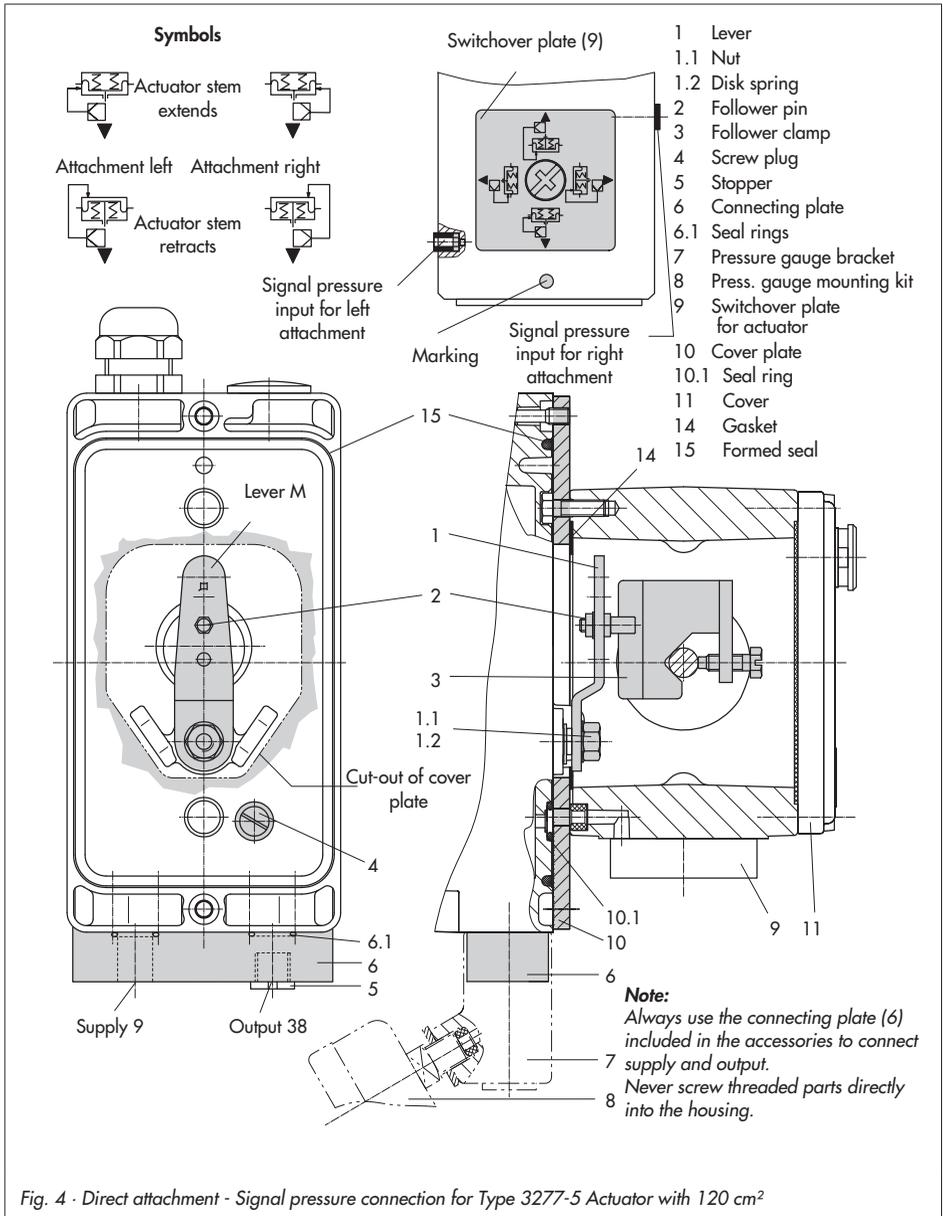

Fig. 4 - Direct attachment - Signal pressure connection for Type 3277-5 Actuator with 120 cm²
1. Mount connecting plate (6) or pressure gauge bracket (7) with pressure gauges onto the positioner, making sure both seal rings (6.1) are seated properly.
2. Remove screw plug (4) on the back of the positioner and close the signal pressure output "Output 38" on the connecting plate (6) or on the pressure gauge bracket (7) with the stopper (5) included in the accessories.
3. Place follower clamp (3) on the actuator stem, align and screw tight so that the mounting screw is located in the groove of the actuator stem.
4. Mount cover plate (10) with narrow side of the cut-out opening (Fig. 4, left) pointing towards the signal pressure connec-